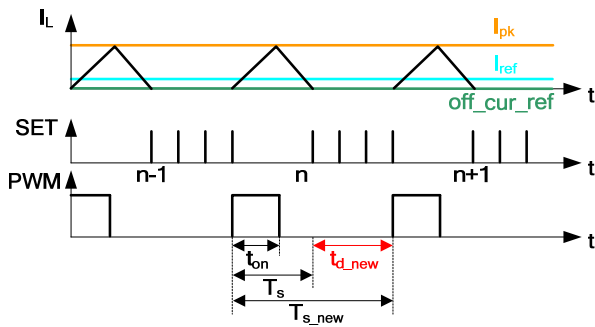

Figure 25: Td Control Signals
As shown in Figure 25, Td_filter is implemented on the calculation of the delay time. It helps reduce the current distortion in DCM operations. With Td_filter, the new delay time can be calculated with Equation (18):